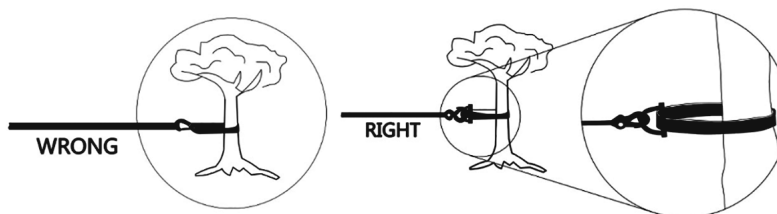

Figure 4-6
- Never hook the rope back onto itself. This could damage the rope. A tree saver is recommended. (See Figure 4-6)